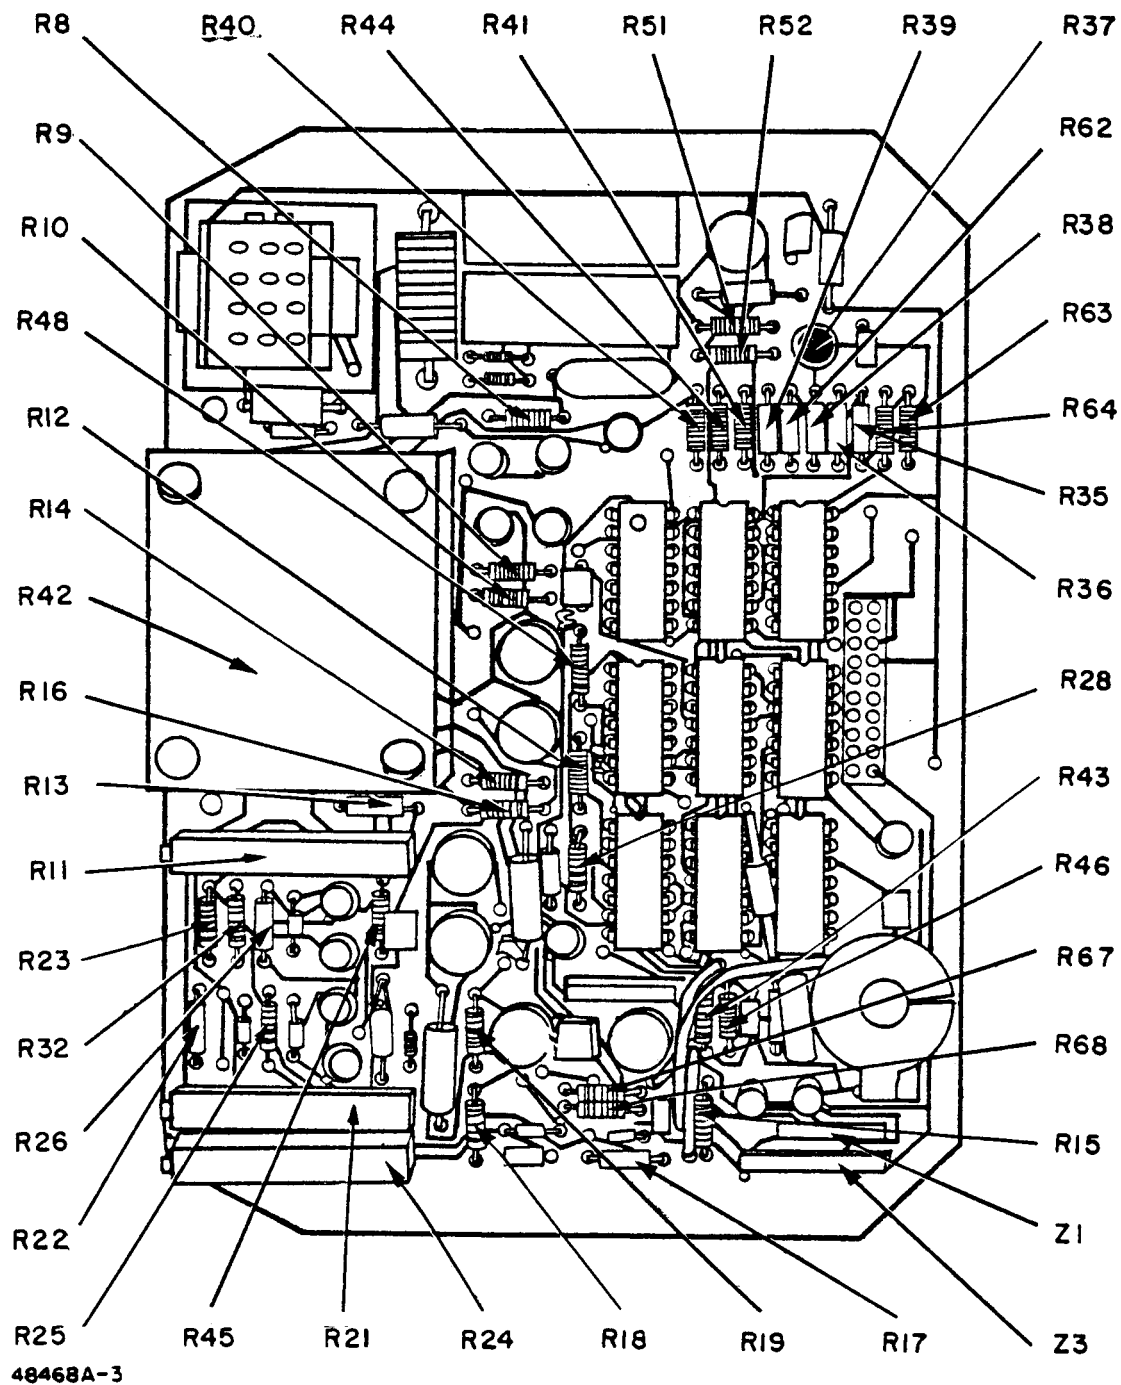

Figure 8. Analog Board A1 (sheet 3 of 3)
5. PARTS LIST (CONT) (see figure 8)